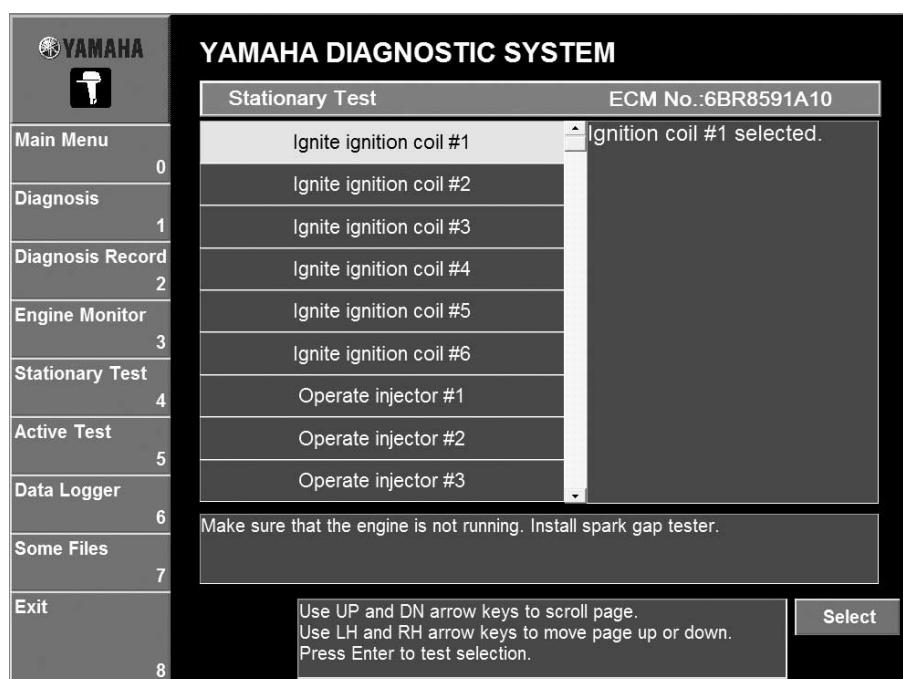

Fig. 70
1. Select the test that you wish to perform by either clicking it or pressing the up or down arrow keys on your keyboard. (See fig. 70.)
4. Select the cylinder number where the spark gap tester is connected, and then click the **Select** button or press the Enter key on your keyboard. (See fig. 70.)